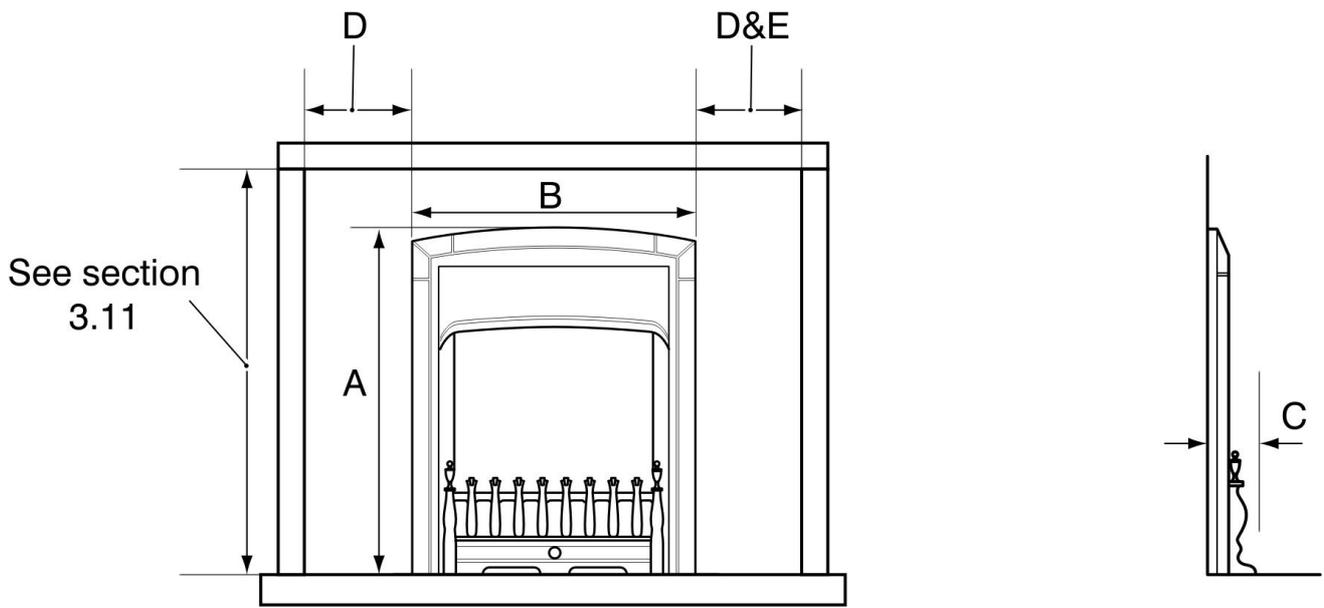

Figure 5. Appliance dimensions and clearances (Continued on next page)
3.21 The minimum allowable distance from the outside of the appliance fascia to a corner wall having combustible material or any other combustible surface which projects beyond the front of the appliance is shown in figure 5. A 10mm access clearance from a non-combustible surface is necessary at the left side. See figure 5.
Figure 5 continued. Appliance dimensions and clearances